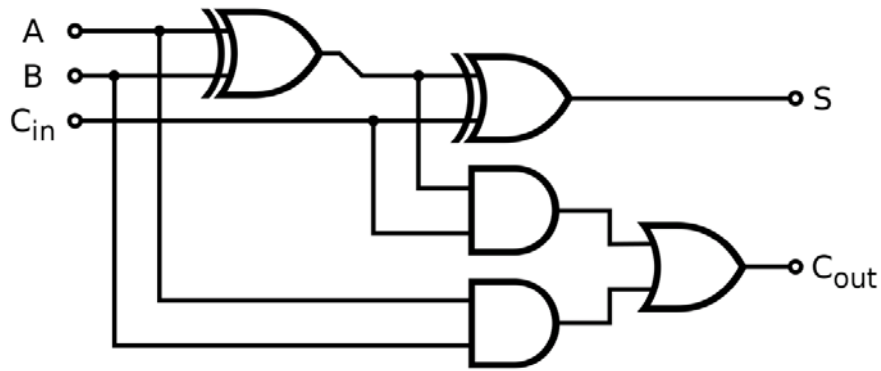

Figure 2: Typical schematic for a full adder.
The gate-level schematic for a typical full adder is shown in Figure 2. It is composed of two XOR gates, two AND gates, and a NOR gate. The longest delay (signal propagation delay) through this cell is from A or B to C_{out} . Thus, the speed of a ripple carry adder is limited by how many bits the C_{out} signal must cascade through.
2. Within the FullAdder schematic, implement the design shown in Figure 2 of the Background section by instantiating gates from the basic ECE331 library and your project library. Define the inputs to be A, B and Cin and the outputs to be S and Cout. Make sure you assign the correct name to the correct signal!